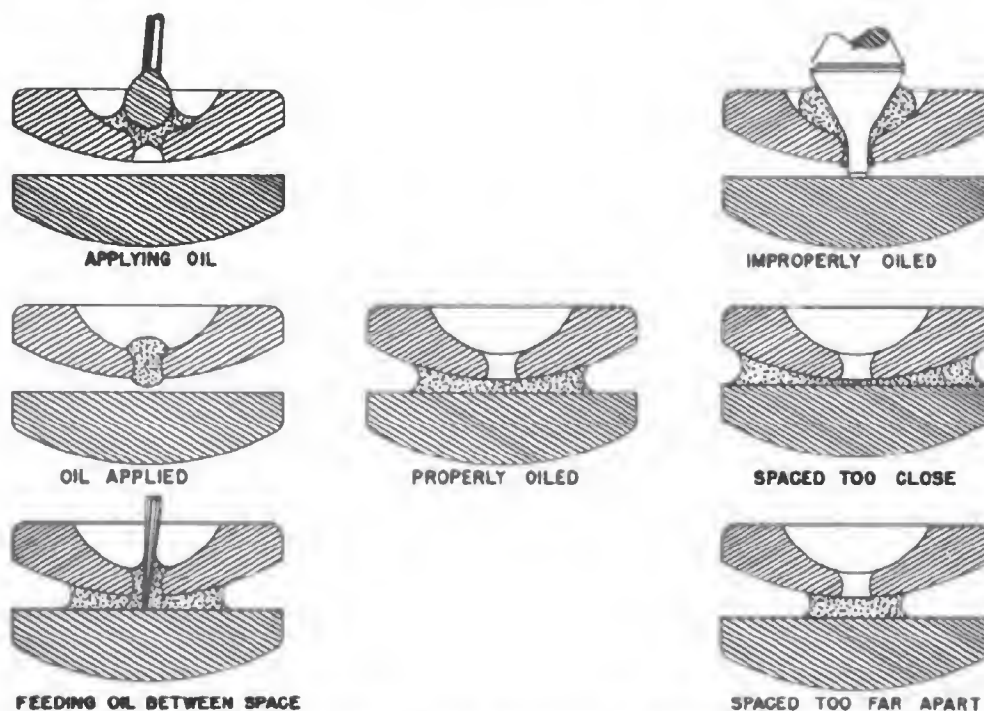

Figure 49. — Balance jewel properly and improperly oiled.
8. *Cap jewels.* — After the balance has been replaced in the movement, a small drop of oil is placed in the hole jewel oil cup with the oiler, and pushed down into the hole with a clean piece of fine polished wire. The position of the oil bubble between the jewels can be clearly seen with a loupe. If the bubble size appears to be too small, it may be increased by adding a small amount at a time. Capillary attraction holds the oil in its place and against the surfaces of the pivots. No oil should be allowed to touch the jewel setting as this would result in the oil being drawn away from the jewel hole, leaving the balance pivot dry. The correct and incorrect procedures for oiling balance jewels are indicated in figure 49.